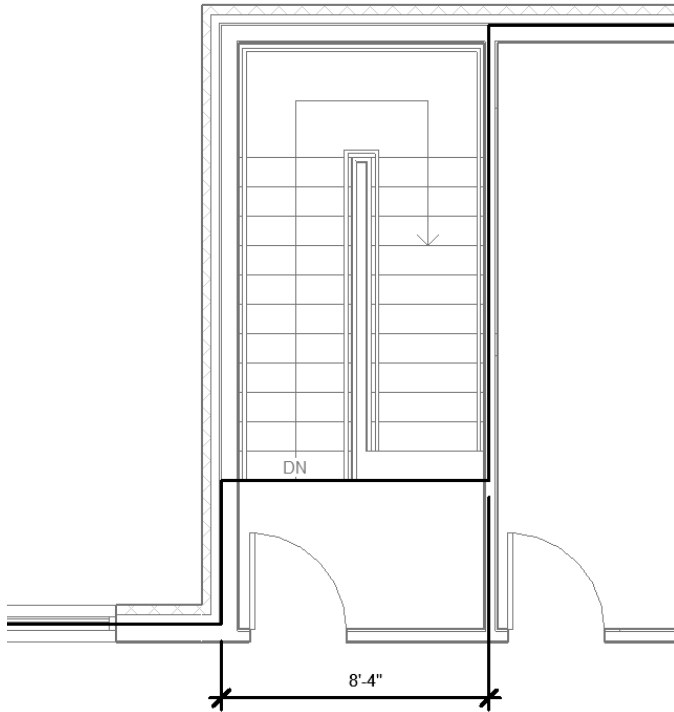

Figure 7-3.9
23. Zoom into the North stair, and make the edits shown in Figure 7-3.9.